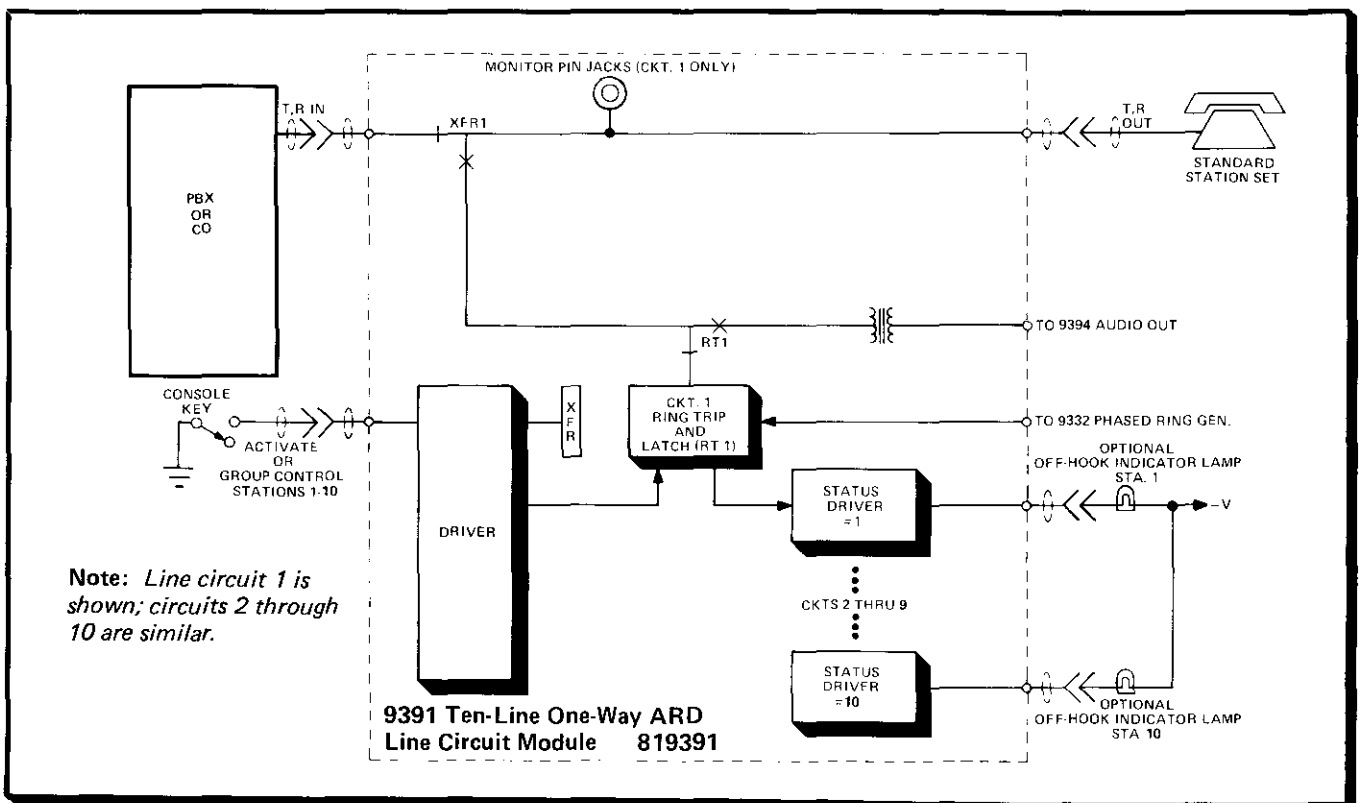

figure 6. 9391 Ten-Line One-Way ARD Line Circuit Module (819391) block diagram
2.12 The 9391 Ten-Line One-Way ARD Line Circuit Module (please refer to figure 6) provides for the transfer of 10 stations between the PBX and the 9394 Distribution Amplifier. The transfer of all 10 lines is initiated by applying ground to the driver circuit of the transfer relay (group lead). The driver circuit keeps input current to a minimum and allows direct interface with existing automatic fire control panels, telephone keys, recorders, etc.